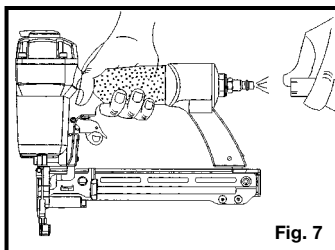

Fig. 7
11. Connect tool to air supply hose with a coupling that automatically removes all pressure from the tool when the coupling is disconnected. Fig. 7.
12. Disconnect tool from air supply hose before doing tool maintenance, clearing a jammed fastener, leaving work area, moving tool to another location, or handing the tool to another person. Fig. 7.